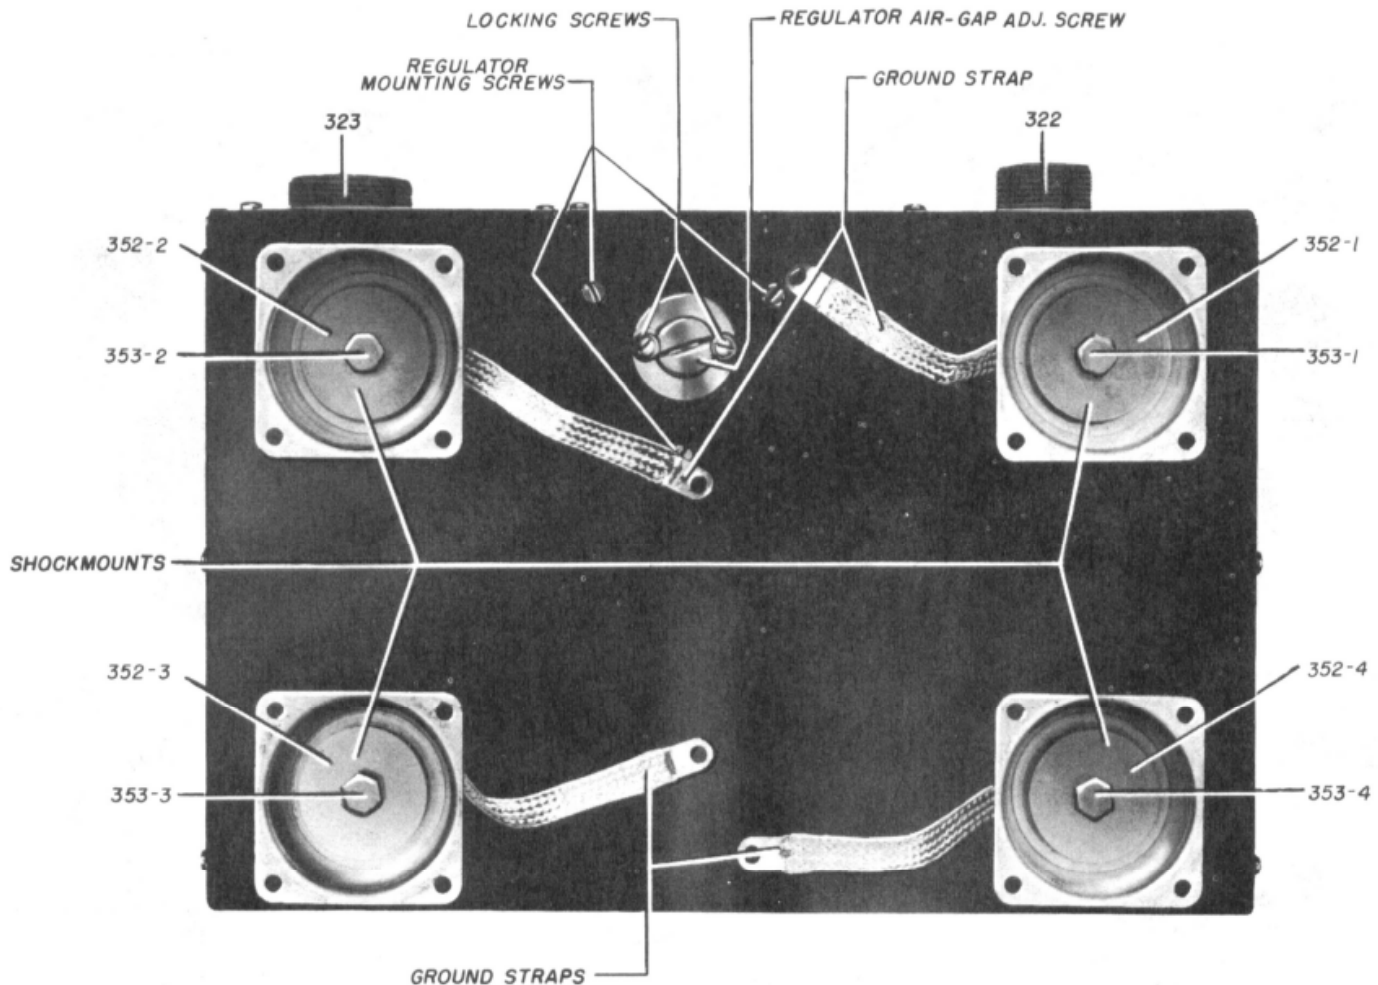

FIGURE 61 — DYNAMOTOR UNIT PE-94-A OR PE-98-A, BOTTOM VIEW
Remove the front panel [see (2) above]. Remove the three flathead regulator-mounting screws on the bottom of the dynamotor unit (see Figure 61) and disconnect all wires going to the voltage regulator and remove the regulator.